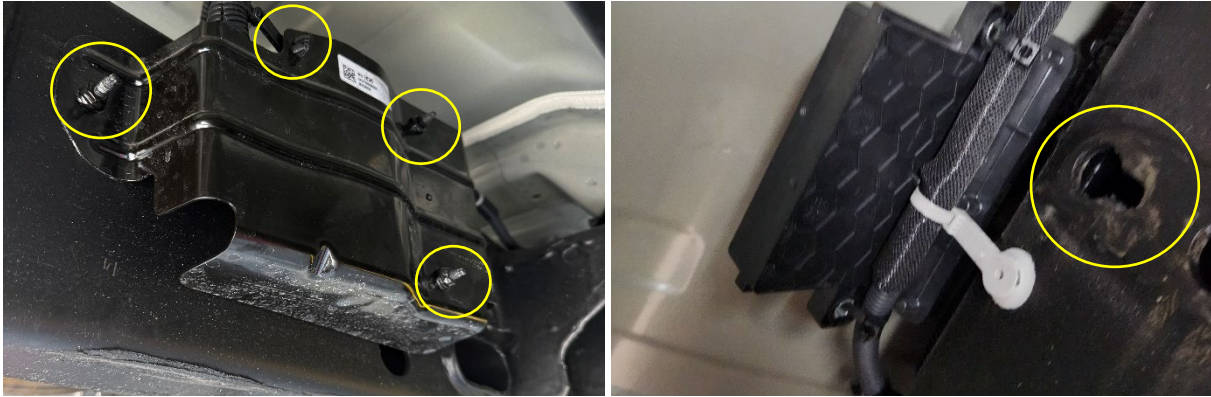

Figure 33- Module Shield Removal 1
6. Fully tighten hardware H1 & (if required), attach the module to the relocation bracket using hardware H5, H6, H7 & H15 as shown in the above Figure 33.